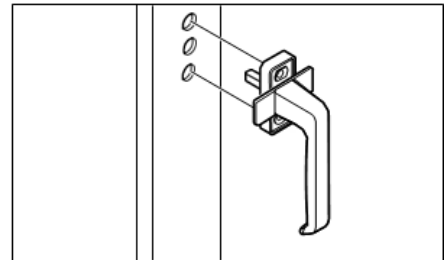

Figure 4-3. Euro-Handle in the Lock position
- 2.3 Lock position: install the Euro-Handle on the sash in the vertical Lock position, with the handle pointing down. Insert the shaft into the center hole. See fig. 4-3.